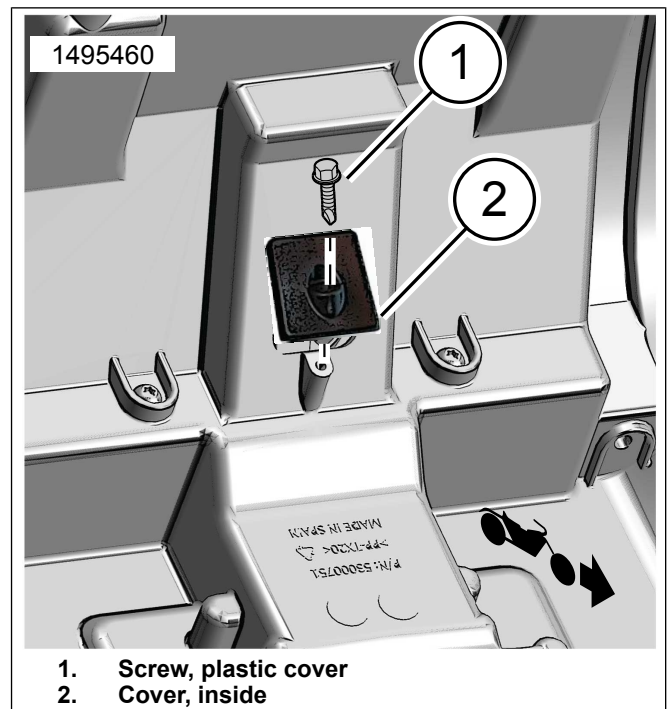

Figure 10. Inside Cover Install
- See Figure 10. Install cover (2) and screw (1). Hand tighten.